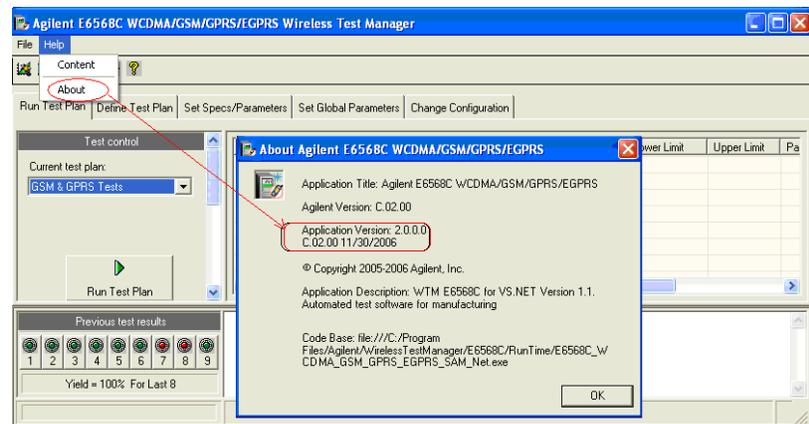

Figure 1. WTM version information.
- b. Click on **Help>About**. A message window with the WTM application version information will appear. Refer to Figure 1.